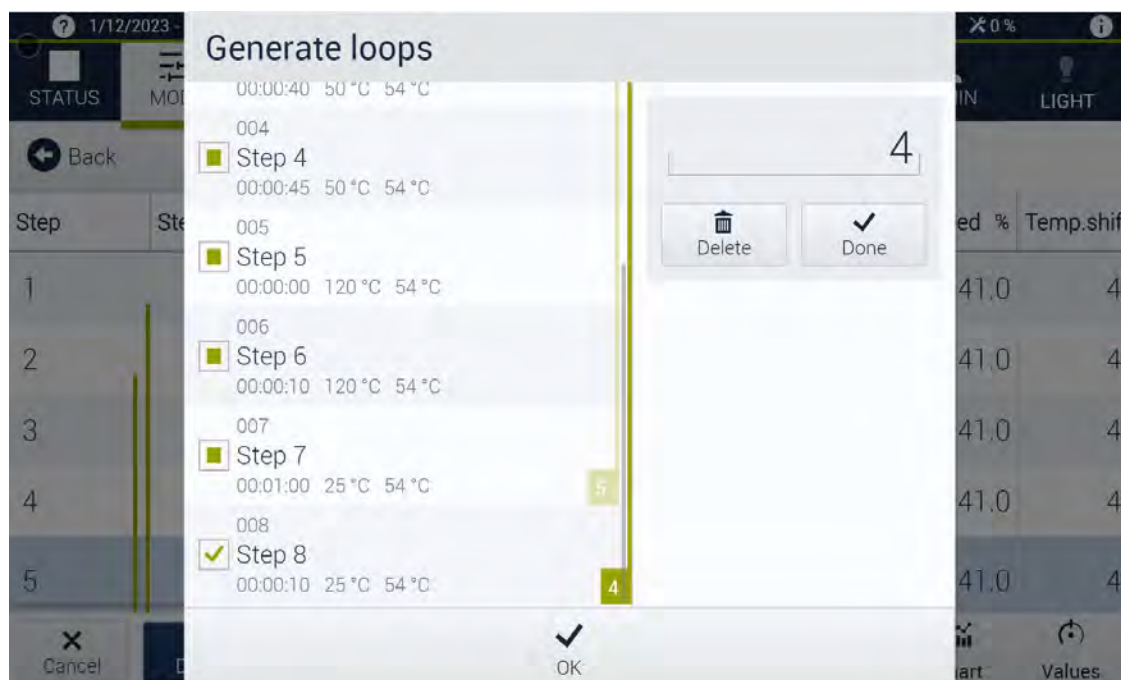

Fig. 6-3 Nesting multiple loops
- ▶ To generate another loop tap again on the first and last steps of the loop desired. In doing so you can integrate loops already generated if the new loop ends at least one step beyond the existing loop → *Fig. 6-3 »Nesting multiple loops«* (page 77).